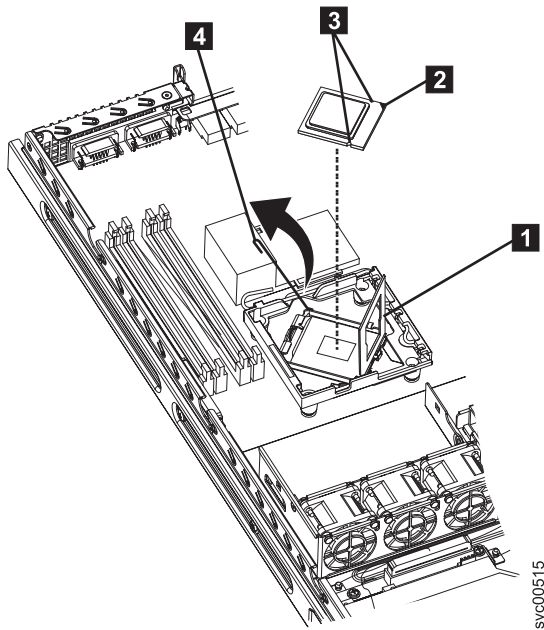

Figure 264. SAN Volume Controller 2145-8A4 microprocessor
1. Make sure that the microprocessor bracket frame **1** and release latch **4**, shown in Figure 264 on page 262, are both fully open.
2. Align the microprocessor with the socket as shown in Figure 264. (Note the alignment mark **2** and the position of the notches **3**.)